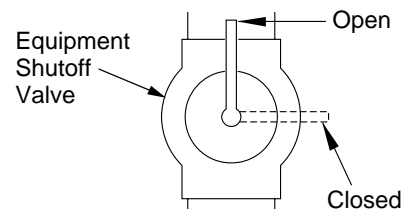

Figure 21 - Equipment Shutoff Valve
- Close equipment shutoff valve (see Figure 21).
1. Open equipment shutoff valve (see Figure 21, page 12).